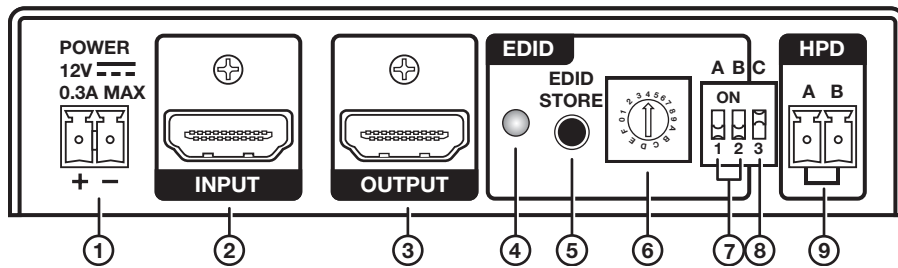

Figure 4. EDID 101H Rear Panel
- ⑥ **EDID selection rotary switch** – One 16-position rotary switch combined with DIP switches A and B (see figure 4, ⑦ on page 5) provide a choice of user stored or pre-programmed EDID (see **EDID 101H Configuration** on page 11).